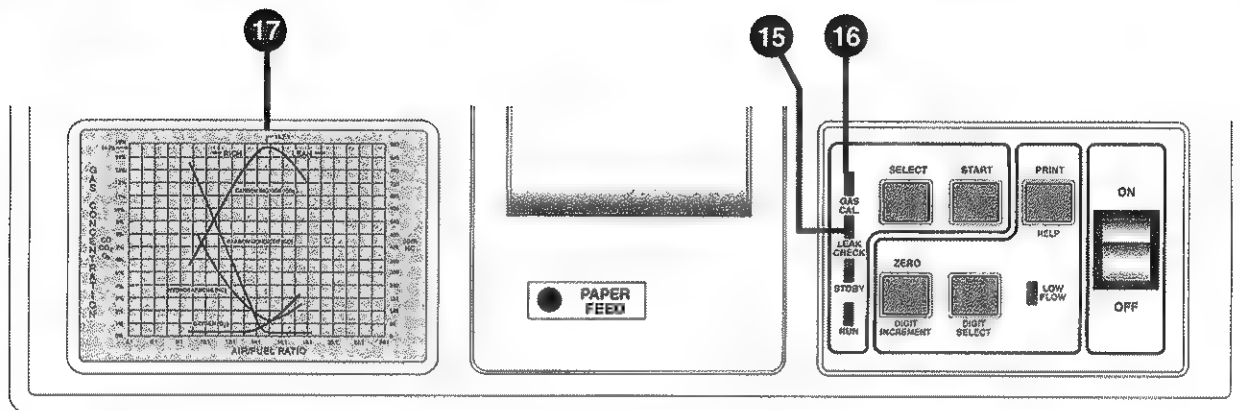

FIGURE 13:
15. LEAK CHECK Indicator - (see FIGURE 13) Yellow Light Emitting Diode (LED) illuminates when the **LEAK CHECK** function is selected, and flashes when the **LEAK CHECK** function is entered (**START** switch is depressed).
17. STOICHIOMETRY GRAPH - This decal graphically presents the relationship of the four (4) measured gasses; CO, CO₂, HC, and O₂.